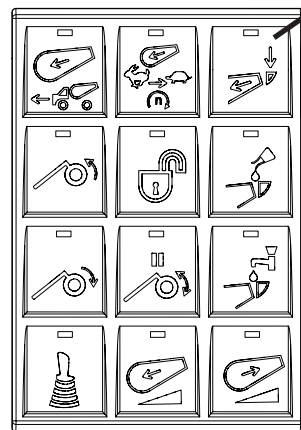

Figure 45
4. Press the LOAD button on the optional in-cab keypad (Figure 45, Item 1). The button indicator will illuminate. The LOAD icon will display on the drum control on the touch screen monitor.